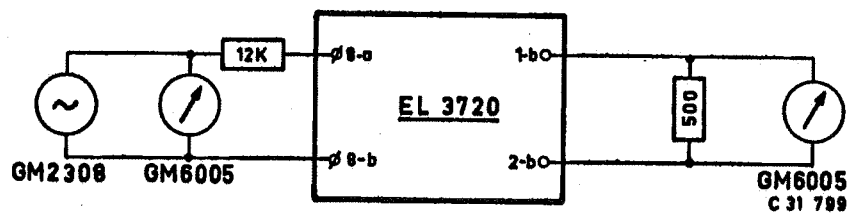

Fig.2
- Connect the amplifier as shown in fig. 2.